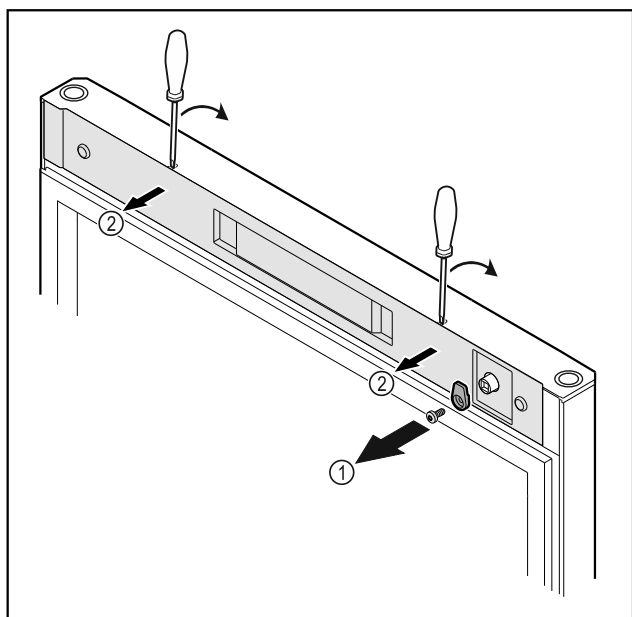

Fig. 6
- Unscrew the door latch Fig. 6 (1).
- Unlatch the cover Fig. 6 (1) with a small screwdriver and remove it.